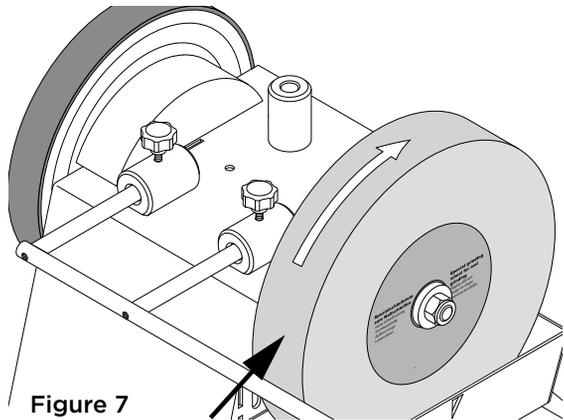

Figure 7
- Attach the universal support in the horizontal mounts as shown in Figure 7. Be sure it is securely positioned and will not move during grinding.